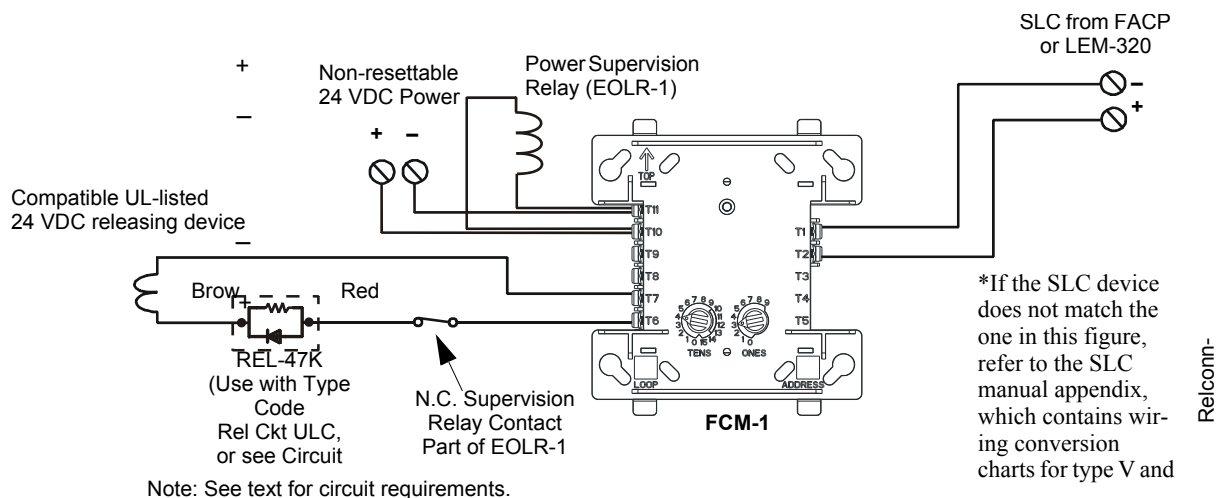

Figure 4.12 Typical Connection of a 24 VDC Releasing Device to the FCM-1 Module
- a) Use an in-line supervisory device (P/N REL-47K) with the FCM-1 module. Connect the in-line supervisory device as shown in Figure 4.12.